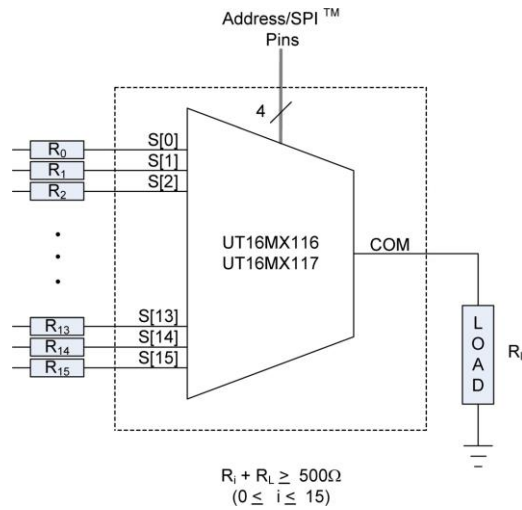

Figure 9: Minimum Total Path Resistance for Continuous DC Operation on Any Single Channel
2. Continuous operation with low load resistance is not recommended. (See Figure 9)
- Continuous operation with low load resistance is not recommended. (See Figure 9).